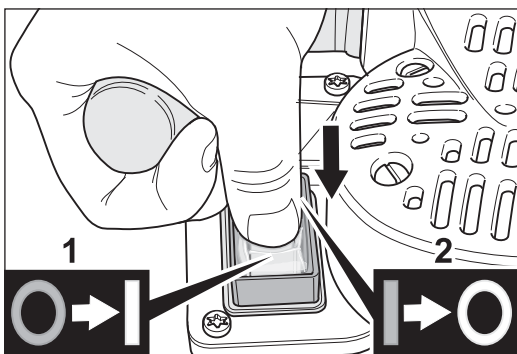

Fig. 10 Start (1) and switch off (2) the machine using the rocker switch.
- 2 Flip the rocker switch to "I" (fig. 10, 1). The switch button will snap into the place and the motor will be started.
- 2 Flip the rocker switch to "0" (fig. 10, 2). The switch button will snap into the place and the motor will be switched off.